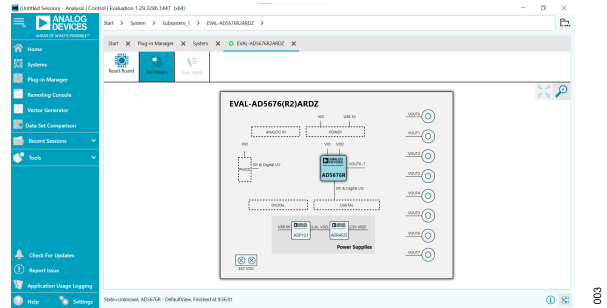

Figure 3. Board View of the EVAL-AD5675RARDZ or EVAL-AD5676RARDZ
3. Double-click the board plugin to open the board view shown in Figure 3.